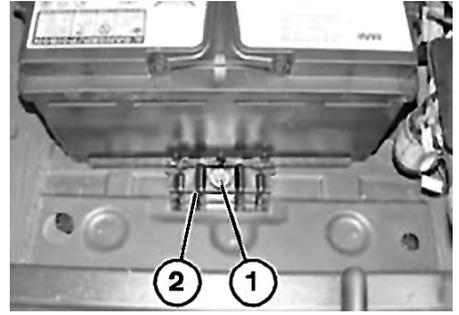

Fig. 4 Battery holder removal
14. Remove battery holder screw (1) and holder (2), **Fig. 4**.
3. Install battery holder (2) and screw (1), **Fig. 4**. **Torque** screw to 86 inch lbs.